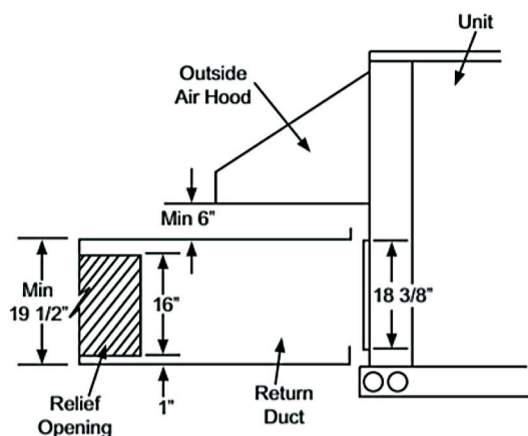

Fig. 35 — Relief Damper
1. Install the field provided horizontal ductwork onto the unit. Duct height must be at least 19 1/2 inches high, however the duct can be no taller than the top of the relief opening in the bottom panel, or airflow into the outside air hood will be restricted. See Fig. 35.
2. Cut a 16 in. x 36 in. opening in the return duct for the relief damper (see Fig. 35).